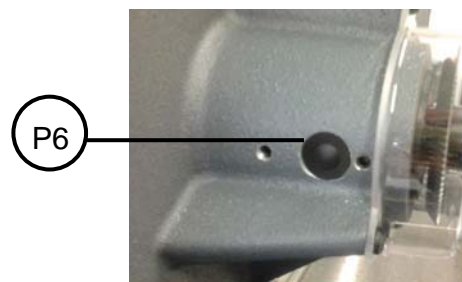

Fig.46
- 4) Remove the protective shavings cover (P6). (Fig.46)